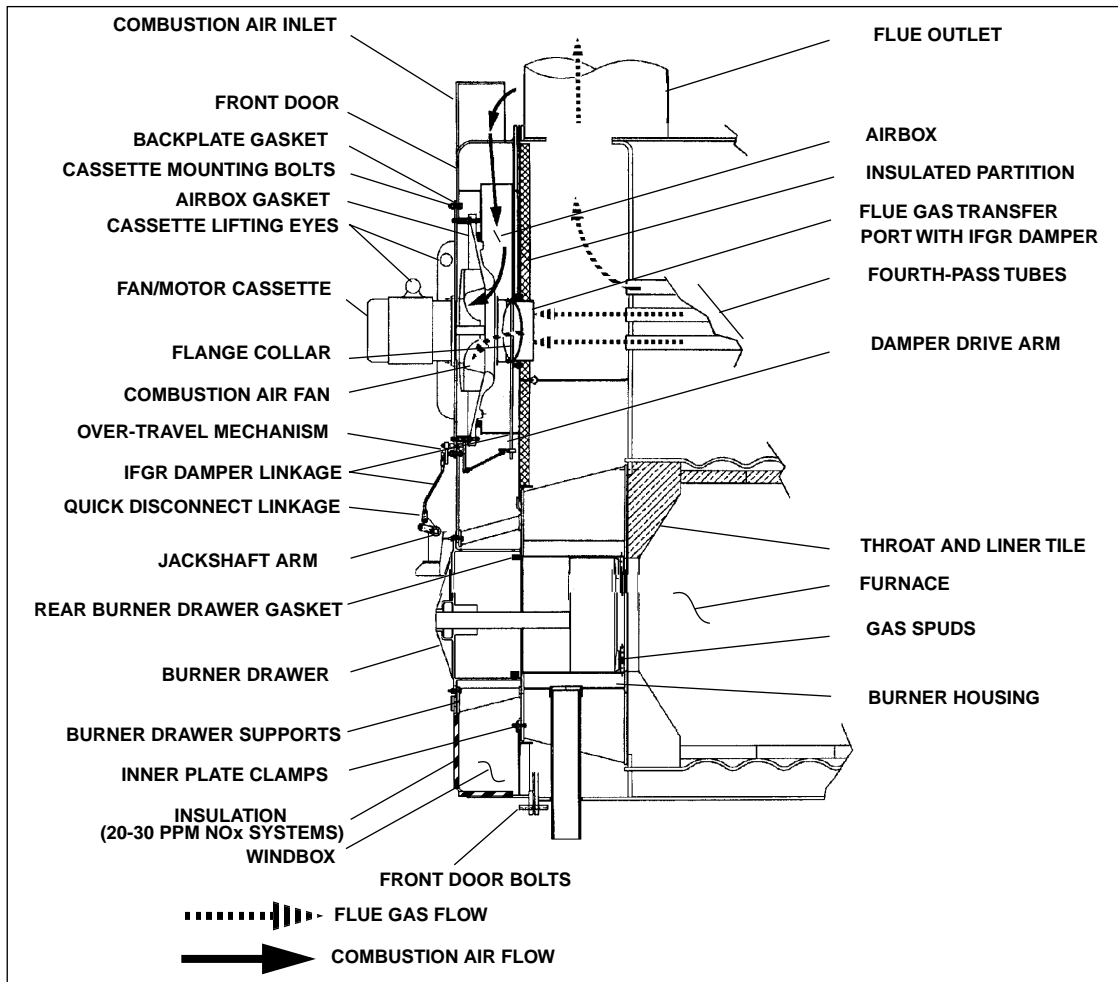

Figure: 1-15 Induced Flue Gas Recirculation System, General Arrangement
1. Flue Gas Transfer Port, IFGR Damper, and Flange Collar (Figure 1-15). The flue gas transfer port is a tube that allows the flue gases to travel from the exit of the fourth-pass tubes to the entrance of the combustion air fan.
3. Over-Travel Mechanism (Figures 1-15 and 1-16). The over-travel mechanism has two functions. It allows the linkage to pass through the front door, and it allows jackshaft rotation to exceed (over travel) IFGR linkage
6. Burner Drawer (Figure 1-15). The gas spudding pattern for the IFGR system may be different than that of a non-IFGR CB Burner of the same horsepower (HP) model designation.
7. Combustion Air Inlet (Figure 1-15). The combustion air inlets are located at the top of the front door. Air enters from the rear of the air inlet shrouds, which reduces the
8. Front Door Insulation (Figure 1-15). If NO_x emissions are below 60 PPM, the front door is insulated inside to control temperature build up. The insulation is held in place with wire mesh.